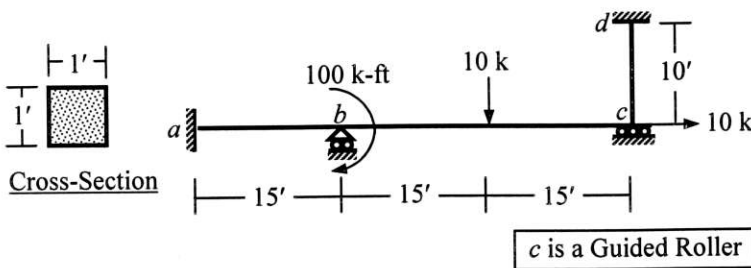

Fig. 4
4. Consider axial and flexural deformations to assemble the stiffness matrix, load vector and specify boundary conditions for the frame *abcd* loaded as shown in Fig. 4 [Given: $E = 400 \times 10^3 \text{ k/ft}^2$].